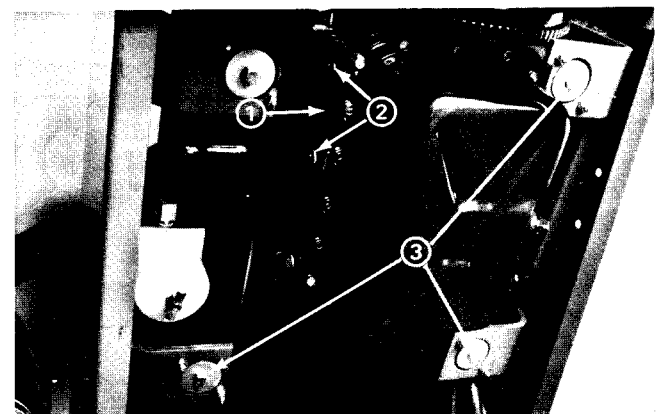

Figure 69
14. Remove four (4) cap screws washers securing the P.T.O. pivot plate to the engine (Fig. 69).
15. Remove the locknut, flat washer, bolt and rebound washer securing the engine to each of three (3) rubber engine mounts (Fig. 69).